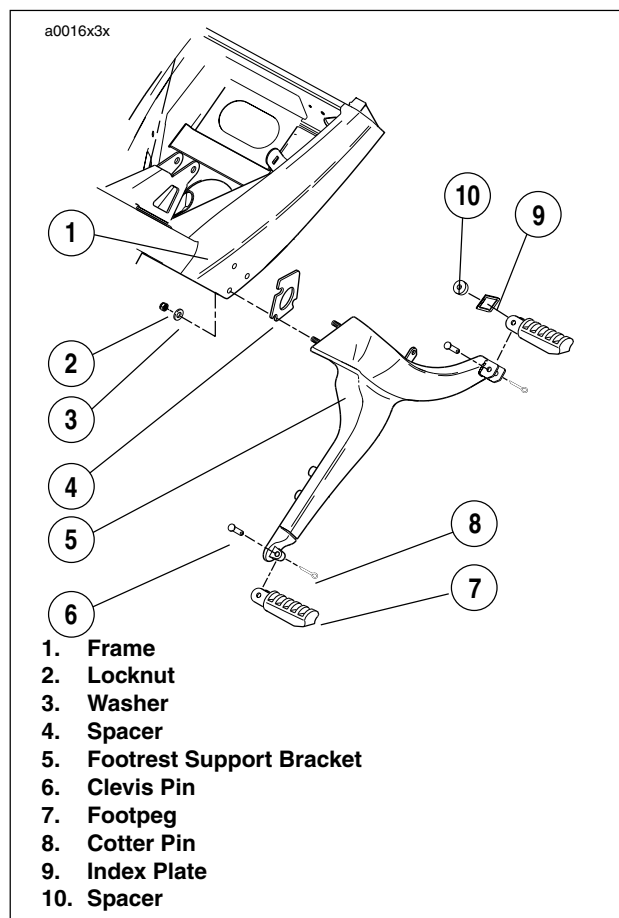

Figure 3-33. Footpeg Bracket Assembly
35. See Figure 3-33. Install right side rider footpeg bracket assembly. See 2.21 FOOTPEGS AND FOOTPEG SUPPORT BRACKETS.